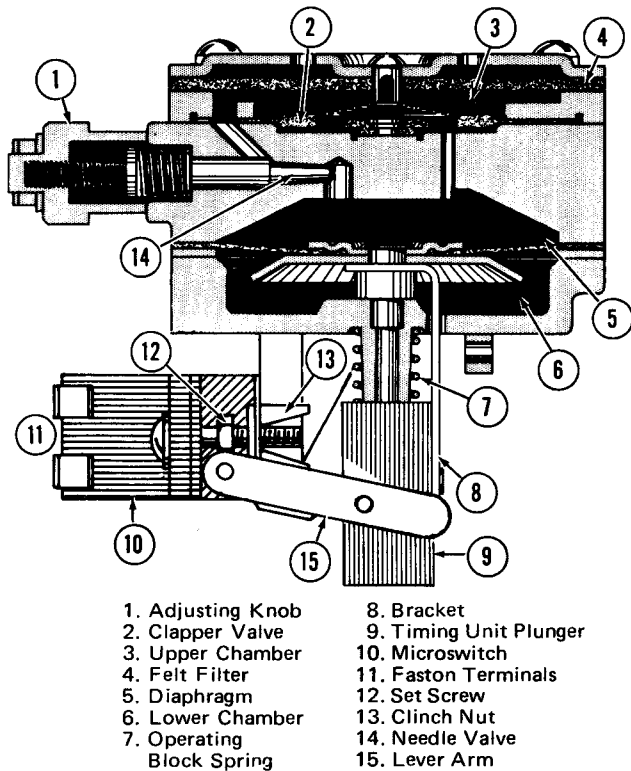

Fig. 4 - Pneumatic Timing Unit
The range of the timer unit on all relays is adjustable between .2 seconds and 3.0 minutes. Adjustment of the timing period is done by turning a knurled adjusting knob, Fig. 4. Turning the adjusting knob positions a needle valve which restricts the orifice between the upper and lower air chambers to the degree necessary to produce the desired time delay. The lubricant used for the adjusting knob provides permanent lubrication without danger of contamination of the needle valve.
The upper and lower air chambers are separated by a rubber diaphragm. A clapper valve, having a large ratio of area to sealing surface, admits filtered air to the upper chamber when the diaphragm is moved upward by the action of the plunger, Fig. 4. The valve then seats and the air escapes through the orifice.
The microswitch operating screw, Fig. 4, is held by a nylon clinch nut for permanent grip which eliminates the possibility of its loosening to cause erratic switch action.
The snap action microswitch located in front of the timing unit plunger, Fig. 4, is equipped with Faston terminals and is lever actuated. The lever arm is pivoted on one end at the timing unit plunger and midway on the timing mechanism housing. Any upward movement of the timing unit plunger will depress the microswitch button, and any downward movement of the plunger will release the button.
If it should become necessary to replace the diaphragm, Fig. 4, the entire timing unit should be replaced.
1. Adjust set screw (12), Fig. 4, so that microswitch just trips at the extreme limit of travel of the plunger. (This screw can be adjusted without loosening nut).
The correct timing period is accomplished by positioning the needle valve in the orifice between the upper and lower air chambers, Fig. 4. Indicating arrows on the plate show the direction in which the adjusting knob should be turned to increase or decrease the delay period.